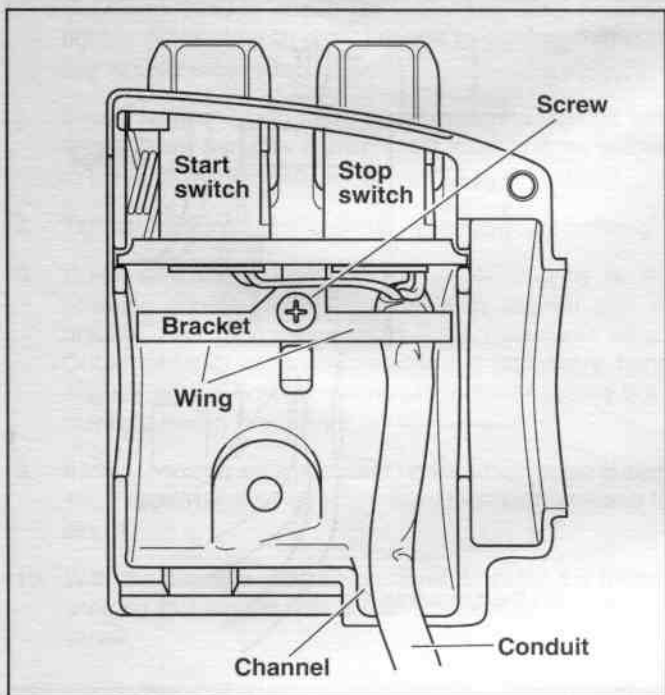
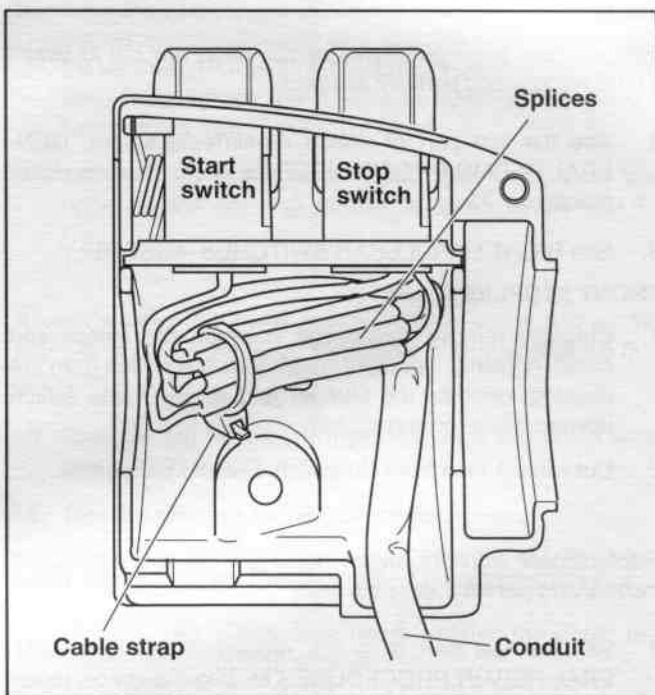

Figure 8-68. Upper Right Handlebar Switch Housing (Without Splices)
Figure 8-69. Upper Right Handlebar Switch Housing (With Splices)
- See Figure 8-68. From inside the switch housing, remove the Phillips screw with lockwasher to release the bracket. Remove the bracket and switch assembly from the housing.
6. Loop switch wires so that spliced lengths are positioned as shown in Figure 8-69. Route wires downstream of splices beneath wing on engine stop switch side of bracket as seen in Figure 8-68.